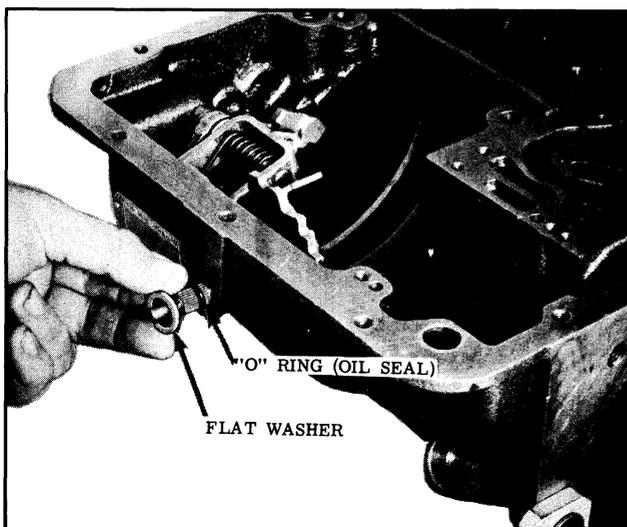

Fig. 3-47 Removing Flat Washer and "O" Ring
2. Push the shaft assembly part way into the case, then back into position and remove the flat washer and "O" ring. (See Fig. 3-47) Remove the shaft assembly and spacer washer from the case.